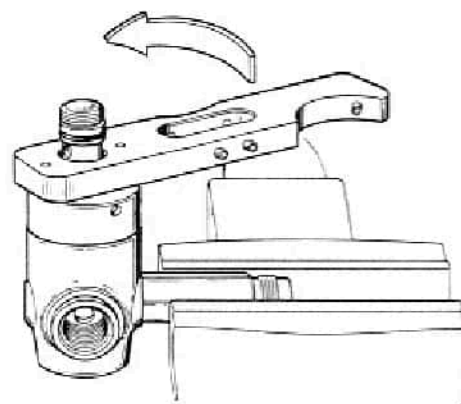

Fig. 5 - Piston Cap Removal
20. Apply the No. 2 Spanner of the Quad Spanner Wrench over the piston cap stem, and mate it securely onto the flat surface of the piston cap (see Fig. 5). While holding the tool and first stage level and securely seated with one hand, turn the piston cap counter-clockwise to loosen no more than one full turn from the body.